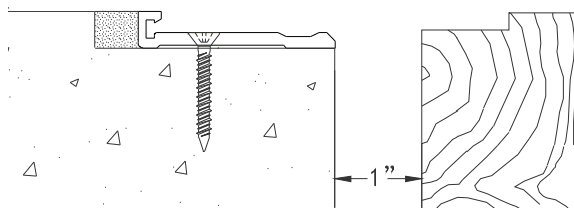

Figure 7
STEP 9. Grout between the base member and the blockout edge using a non-shrink grout (by others; see Figure 7). Clean any excess grout from the exposed surfaces of the base members before it is allowed to set up.